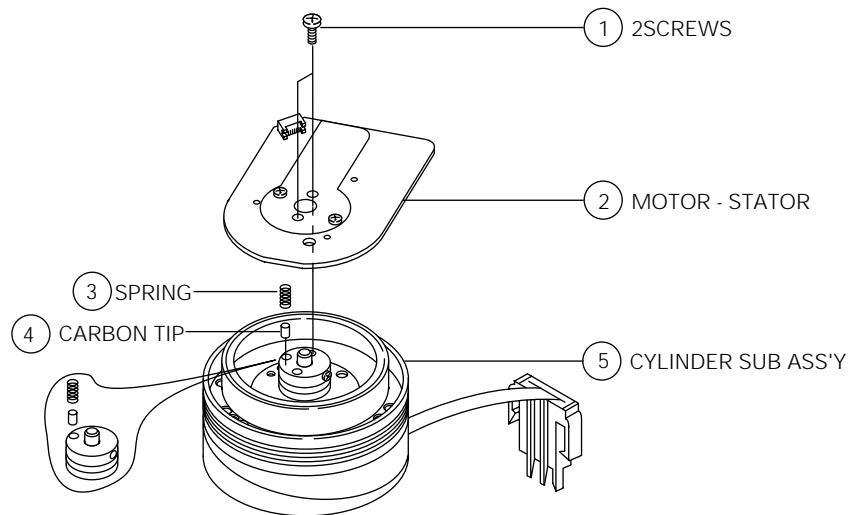

Fig. 4-16 Motor Stator Removal
1. Reinstall the Motor Stator ① toward the FPC cable of Cylinder Sub Ass'y ②.
2. Secure 2 Screws. (Refer to Fig. 4-16)